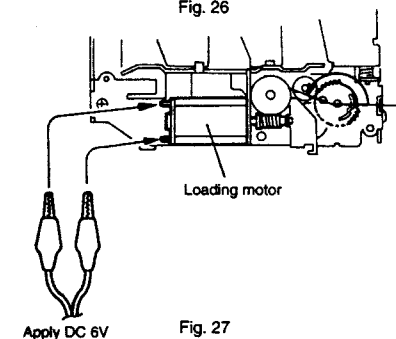

Fig. 27
8. After the installation, apply DC 6 V to the lead wires of the loading motor assembly to locate the load gear assembly as shown in Fig. 27.